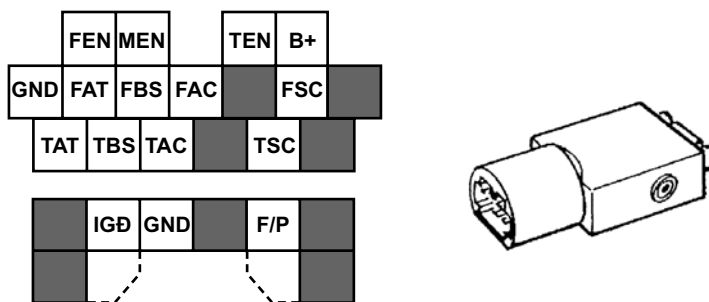

Figure 12-2 17-pin underhood connector and MAZDA-1 adapter
- Connect the MAZDA-1 adapter to the 17-pin connector (Figure 12-2). For reading codes manually, ground one of the following pins: